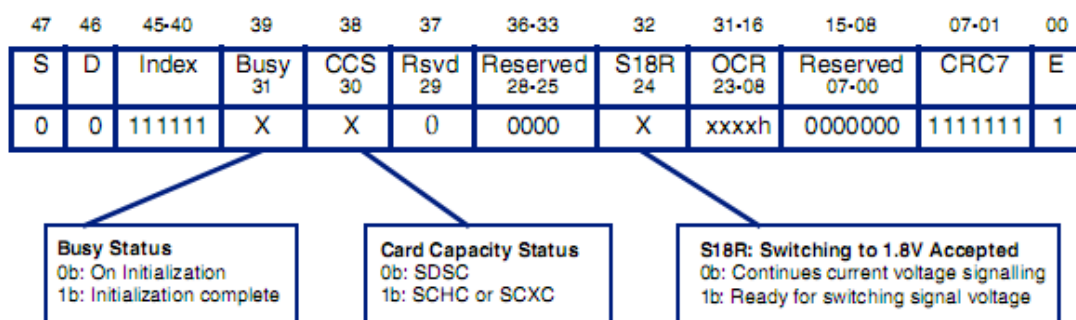

Fig. 17-16 ACMD41 Response(R3)
- Bit 24 should be set to 1'b1, indicating that the host is capable of voltage switching; refer to Figure 17-16.